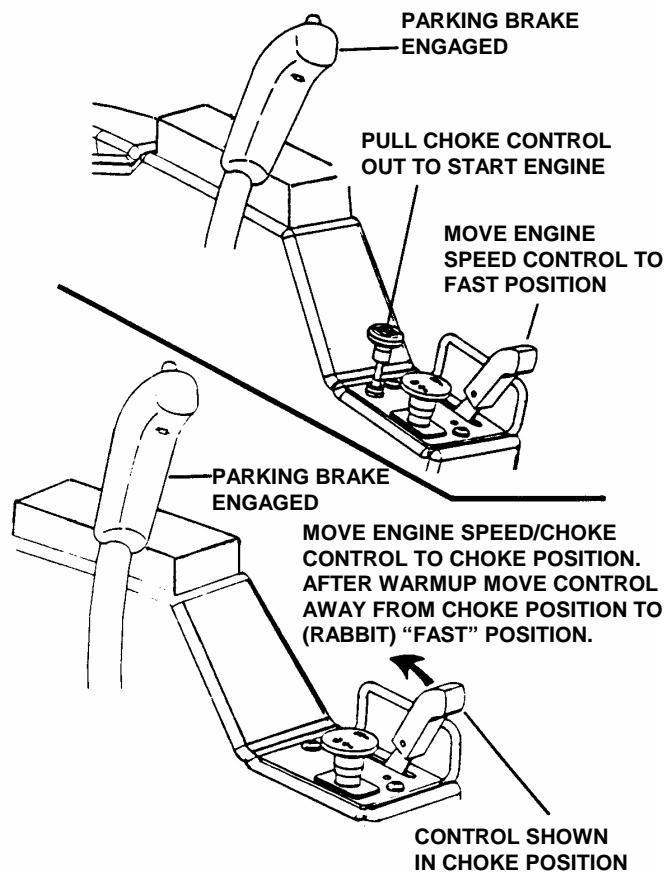

FIGURE 2.6
2. Make certain the blade switch is in the "Off" position. See Figure 2.6.
6. Move engine speed/choke control to the choke position or pull choke control to choke position. See Figure 2.6.
2. Make certain the blade switch is in the "Off" position. Refer to Figure 2.6.
6. Move engine speed/choke control to the choke position or pull choke control to choke position. Refer to Figure 2.6.